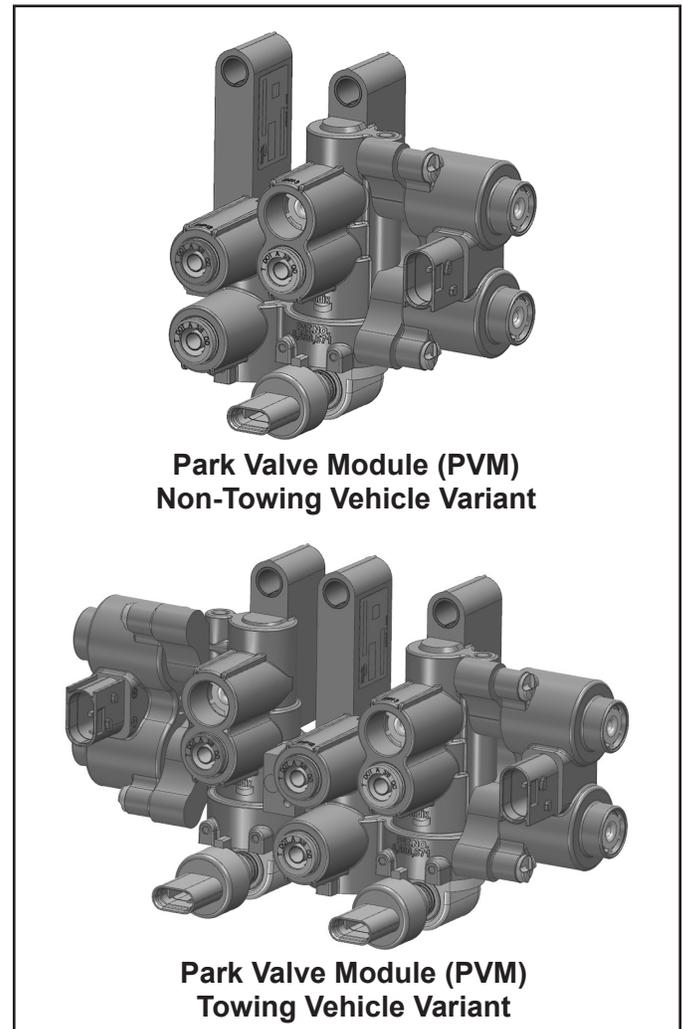

Figure 4 - Park Valve Modules
- The PVM is an electromechanical valve assembly with a solenoid-piloted, pneumatically stable valve for each channel. The pneumatically stable valve is spring biased, much like the Bendix® MV-3® dash control valve, which provides a mechanical trip function on low reservoir pressure. The valve module also contains a duplex single-check valve to isolate the primary and secondary supply air, and a pressure transducer for each channel to allow direct measurement of the delivery pressure. See *Figure 4* for both PVM configurations.